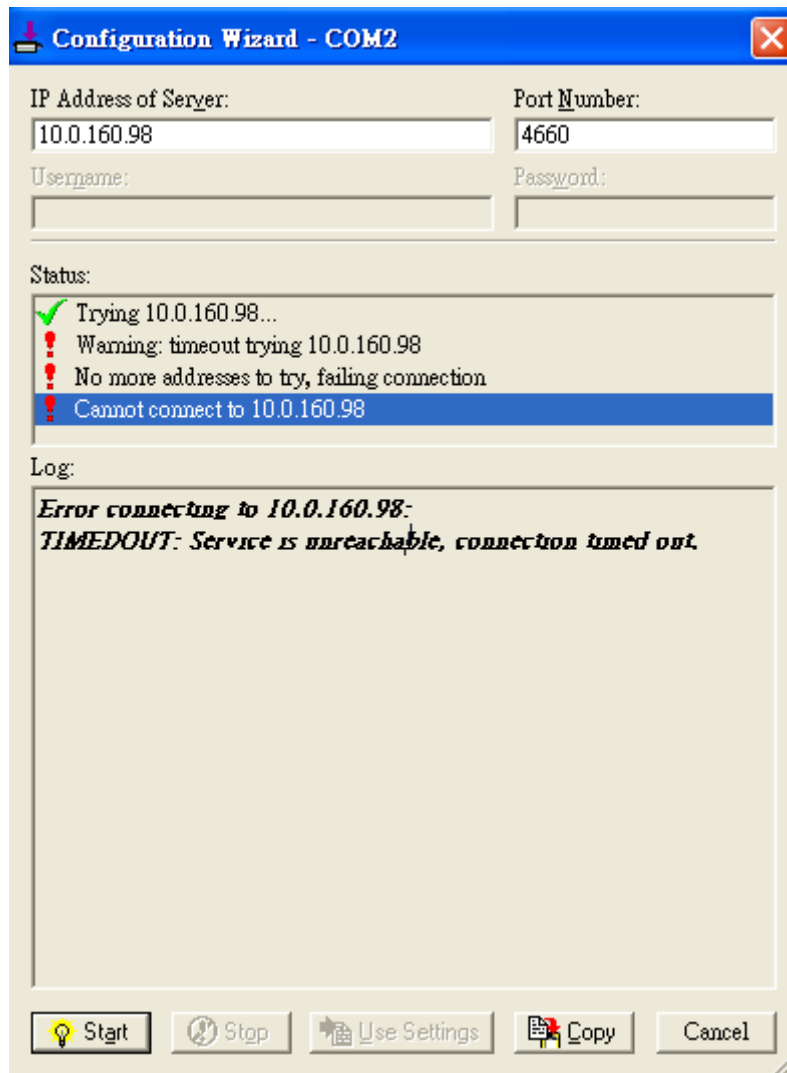

Figure 4.10 Virtual COM Timeout Exception
- a. If the exclamation mark begins with **Warning: timeout trying x.x.x.x** (Figure 4.10), recheck the Virtual COM IP and Port configuration or the PC's network configuration.